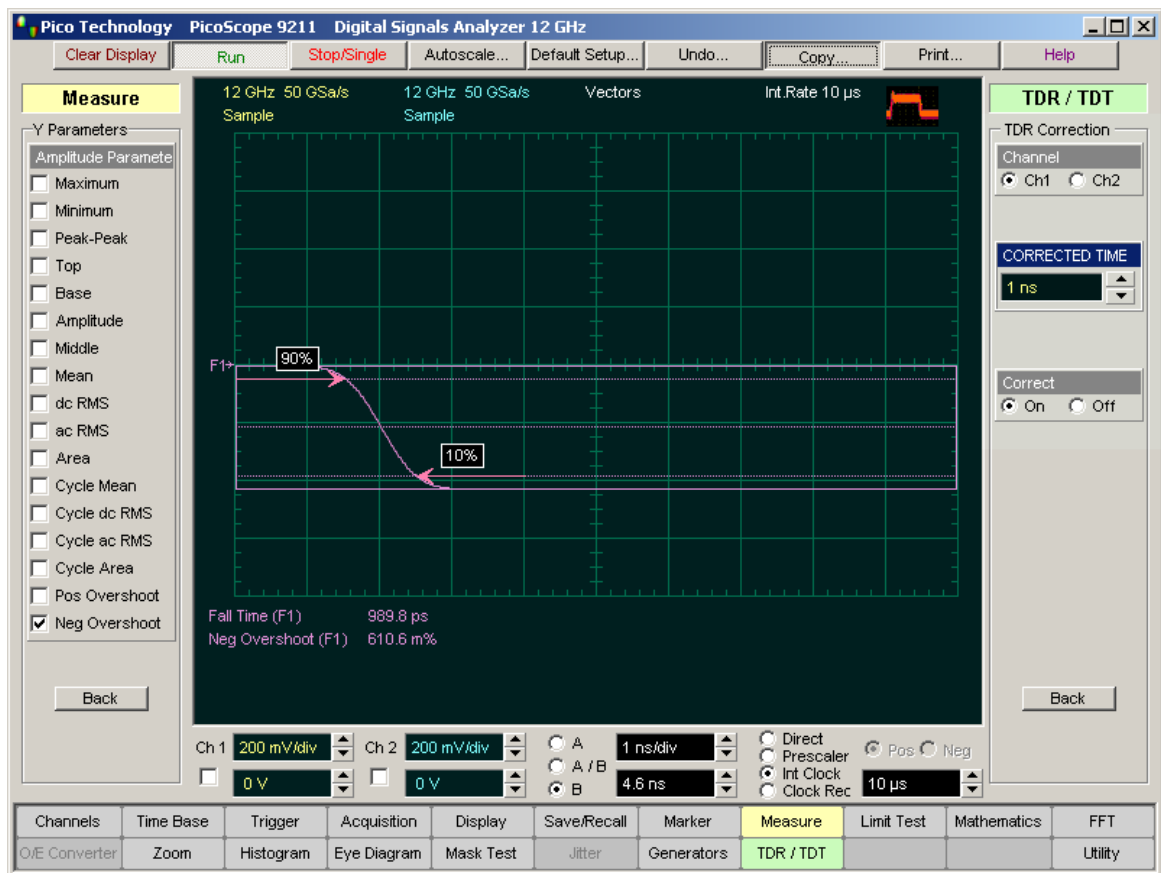

Figure 1
13. From the **X Parameters... menu** select **Fall Time**, and from the **Y Parameters... menu** select **Neg Overshoot**. See Figure 1.